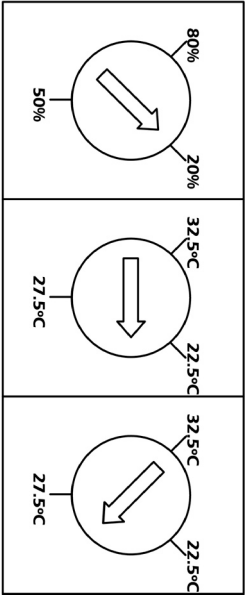

Figure 1
- %ENERGY potentiometer (Fig 1, page 13).